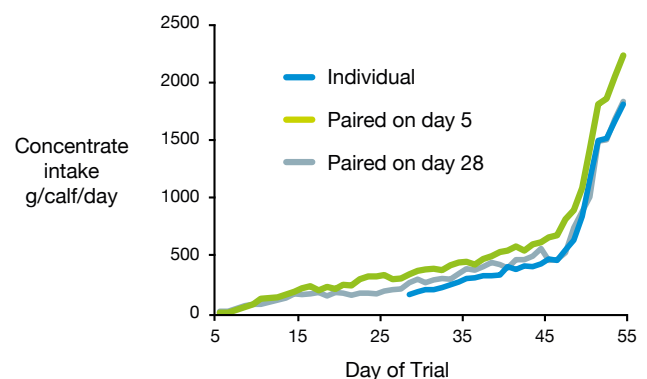

Figure 25. Daily concentrate intake
- There was no statistical difference in concentrate intake (d5–d54), daily liveweight gain (DLWG) (d0–d55) or health (respiratory and faecal scores) between calves that were paired versus individually housed throughout the trial (Figures 25 and 26)